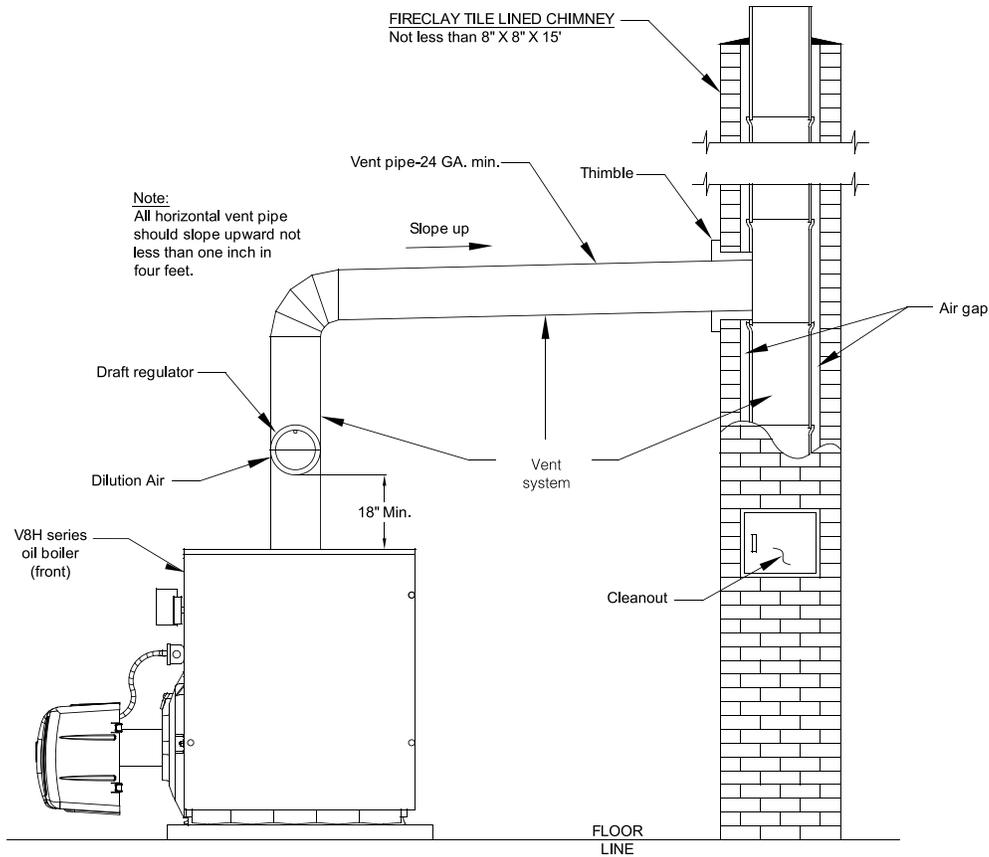

Figure 7-1: Recommended Vent Pipe Arrangement and Chimney Requirements
5. Draft Regulator – the draft regulator supplied with the boiler (or equivalent) must be used with this appliance. Refer to Figures 7-1 and 7-2.